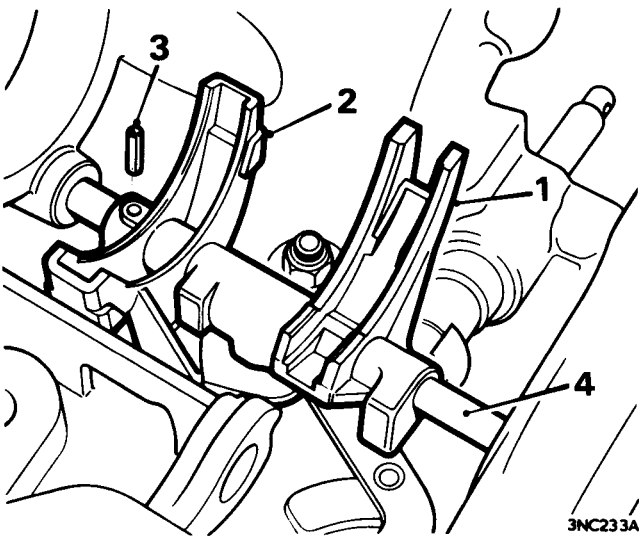

Fig. F.18
35. Drift out the roll-pin securing the third/fourth speed selector fork to its shaft, Fig. F.18.
36. Remove the selector shaft and forks, Fig. F.18.
57. Refit the first speed selector fork and drift the selector rod through the casing and forks; align the hole in the shaft with the hole in the third/fourth speed fork, Fig. F.18.